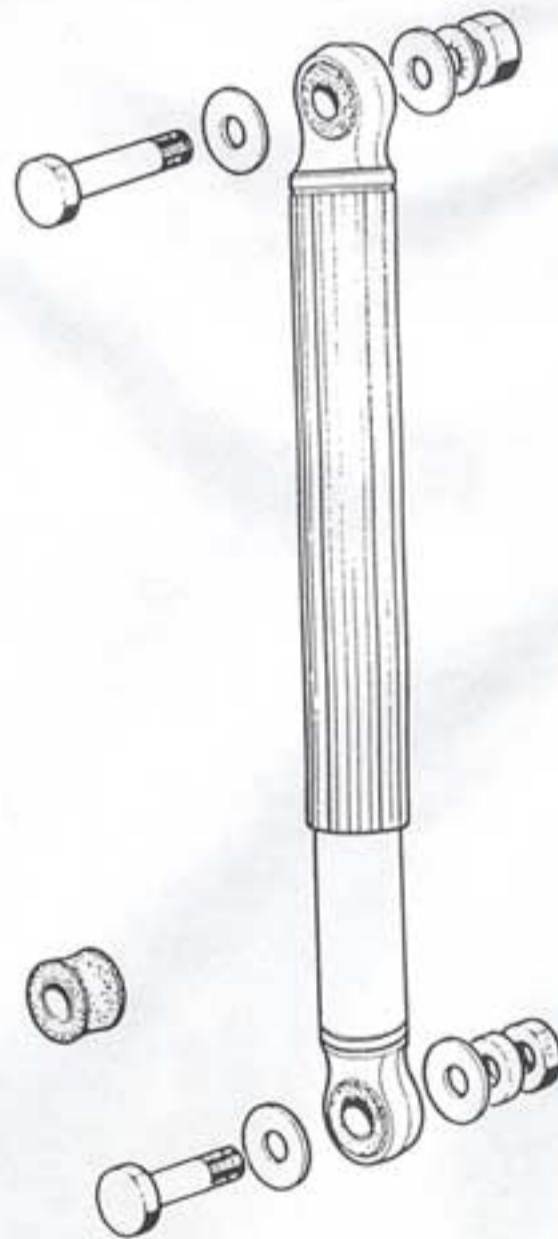

Fig. 2
- Remove the lower mounting bolts (13mm wrench, fig. 2).
- Remove the upper bolt assemblies (13mm wrench, fig. 2).